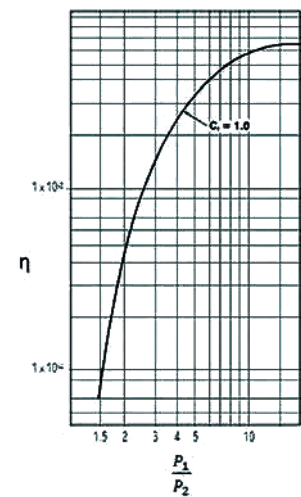
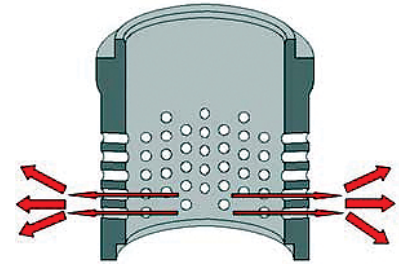

Figure 2, Ref. 2 - Acoustical Efficiency
Figure 3 - Multi-path trim, noise reduction
ratio, the acoustical efficiency remains almost constant, since the flow is already choked (i.e., sonic). See Figure 2, Reference 2.
**Flow velocity:** This method seeks to minimize the noise created in the throttling process by providing low velocity through the trim, gradually reducing pressure so that high flow velocities are not developed. Since the efficiency of conversion of energy ( $\eta$ ) is directly related to flow velocity to the eighth power, by keeping the flow velocity as far below sonic as possible, the efficiency of the transfer of flow energy to noise is minimized. See Figure 2. At Koso Hammel Dahl, this is done using multi staging, either with drilled cages (Flash Flo®, Q-Cage™ and Q-Cage™ Level 2 trim) or a stack of disks (VeCTor™ trim), machined to provide tortuous flow passages within the disks. These tortuous paths reduce the energy gradually so that high velocities, and therefore its related noise, are never attained. See Figure 3. Note that the small size of the fluid openings also shifts the sound energy to higher frequencies as discussed below. See Reference 2.